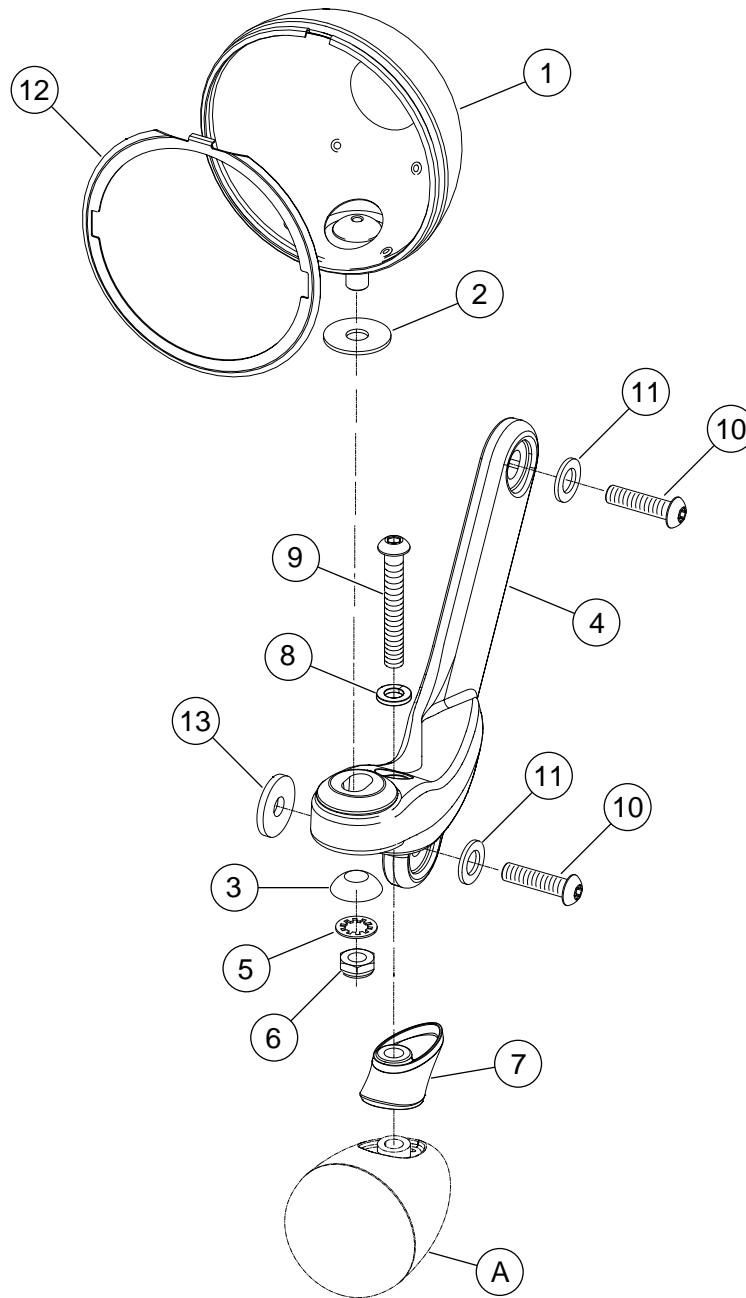

Figure 9. Service Parts: Custom Auxiliary Lighting Kit
1. See Figure 9. Install lamp housing (1), rubber washer (2), clamp block (3), and lamp bracket (4). Secure with lockwasher (5) and nylon locknut (6). Tighten locknut to 14-18 ft-lbs (19-24 Nm). Repeat for other side.
2. Tie small knot in terminal end of gray wire from lamp housing (1) approximately 3-4 inches from terminal to avoid wire getting pulled too far into housing during installation.
4. See Figure 9. Install turn signal assembly (A) to stand off (7) by routing wires through directional stand off and passage in lamp bracket (4) along side gray wire (Figure 4). Secure turn signal assembly using lockwasher (8) and screw. (9). Tighten to 96-120 **in-lbs** (10.8-13.6 Nm). Repeat for other side.
- See Figure 9. After silicone has dried, place a cable tie (14) from kit approximately 1 inch from sealed area, and clinch around sheathing to secure it in place.
- See Figure 9. Connect wires from lamp assembly to wires previously labeled or marked on motorcycle using butt splice connectors (18) from kit. Splice into an existing black wire for kits with an additional ground. Refer to SEALED BUTT SPLICE CONNECTORS in service manual for instructions to splice wires.
2. See Figure 9. Connect wires from lamp assembly to wires previously labeled or marked on motorcycle using butt splice connectors (18) from kit. Refer to SEALED BUTT SPLICE CONNECTORS in Service Manual for instructions to splice wires.
2. See Figure 9. Connect wires from lamp assembly to wires previously labeled or marked on motorcycle using butt splice connectors (18) from kit. Splice into an existing black wire for kits with an additional ground. Refer to SEALED BUTT SPLICE CONNECTORS in Service Manual for instructions to splice wires.
1. See Figure 9. Connect and install lamp sealed beams, lens/bulb assemblies, and trim rings using nest rings (12) from kit.